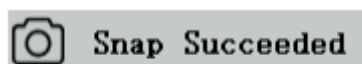

Figure 3-2
2. The screen shows “Take Successfully”, which means that the picture has been taken successfully. This is shown in Figure 3-2.